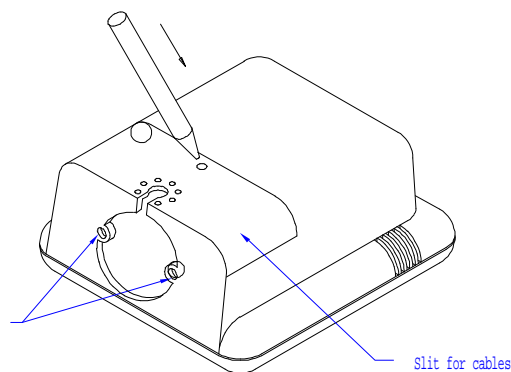

Figure 2.1
1. Locate the small hole at the back cover of the scanner. Press it with the tip of a stick to remove the back cover of the scanner as illustrated in figure 2.1.
3. Press the small hole at the back cover of the scanner with the tip of a stick to remove the back cover, as illustrated in figure 2.1.